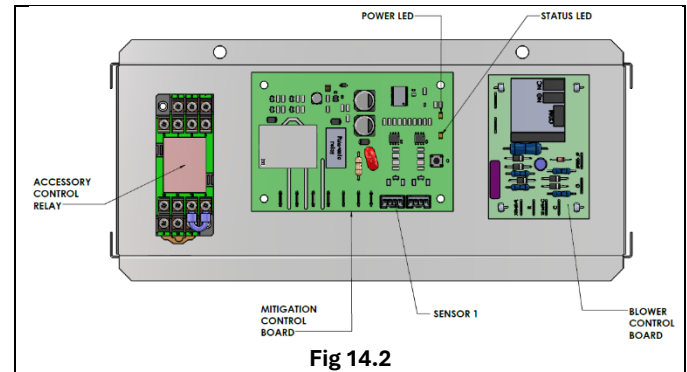

Fig 14.2
- Locate the sensor cable connected to the "SENSOR1" port on the mitigation control board. (See Figure 14.2). Remove the sensor cable by squeezing the tab on the connector and pulling away from the board to disconnect the sensor.